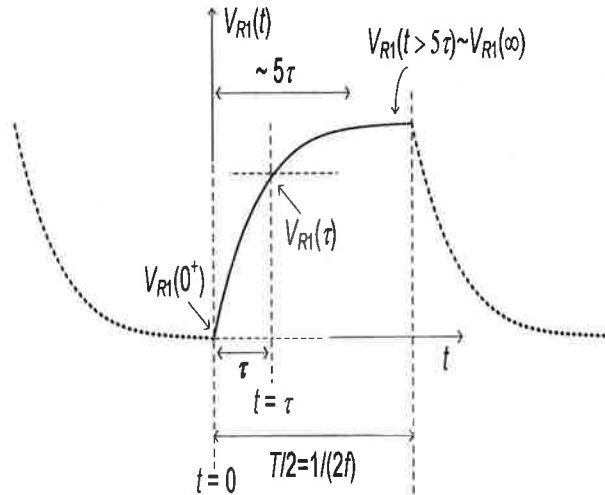

Figure 2. The resistor voltage  $V_{R1}(t)$  versus time  $t$ .
- Measure the approximate value of the time constant  $\tau$  of the circuit from the  $V_{R1}(t)$  waveform (call this time constant  $\tau_{\text{measured}}$  or  $\tau_m$ ). Note that over each  $T/2$  time interval during which the source voltage  $V_S(t)$  is either  $-2.5\text{ V}$  or  $2.5\text{ V}$ , assuming  $t=0$  to be the starting time of each one of these  $T/2$  intervals, the resistor voltage  $V_{R1}(t)$  varies with respect to time as  $V_{R1}(t) = V_{R1}(0^+)e^{-t/\tau_m} + V_{R1}(\infty)(1 - e^{-t/\tau_m})$  where  $V_{R1}(0^+)$  is its initial value and  $V_{R1}(\infty)$  is its final value. So, for example, the resistor voltage at  $t = \tau_m$  is approximately given by  $V_{R1}(t = \tau_m) \cong 0.368V_{R1}(0^+) + 0.632V_{R1}(\infty)$ . Refer to the middle portion of the  $V_{R1}(t)$  sketch shown in Fig. 2 for which  $V_{R1}(0^+) = -2.5\text{ V}$  initial and  $V_{R1}(\infty) = 2.5\text{ V}$  final voltage values are indicated. Substituting these values yield  $V_{R1}(\tau_m) \approx 660\text{ mV}$ . Using this portion of the  $V_{R1}(t)$  waveform seen on the oscilloscope display, measure and record the approximate value of the time constant  $\tau_m$  using the  $V_{R1}(\tau_m)$  voltage point on the  $V_{R1}(t)$  waveform.